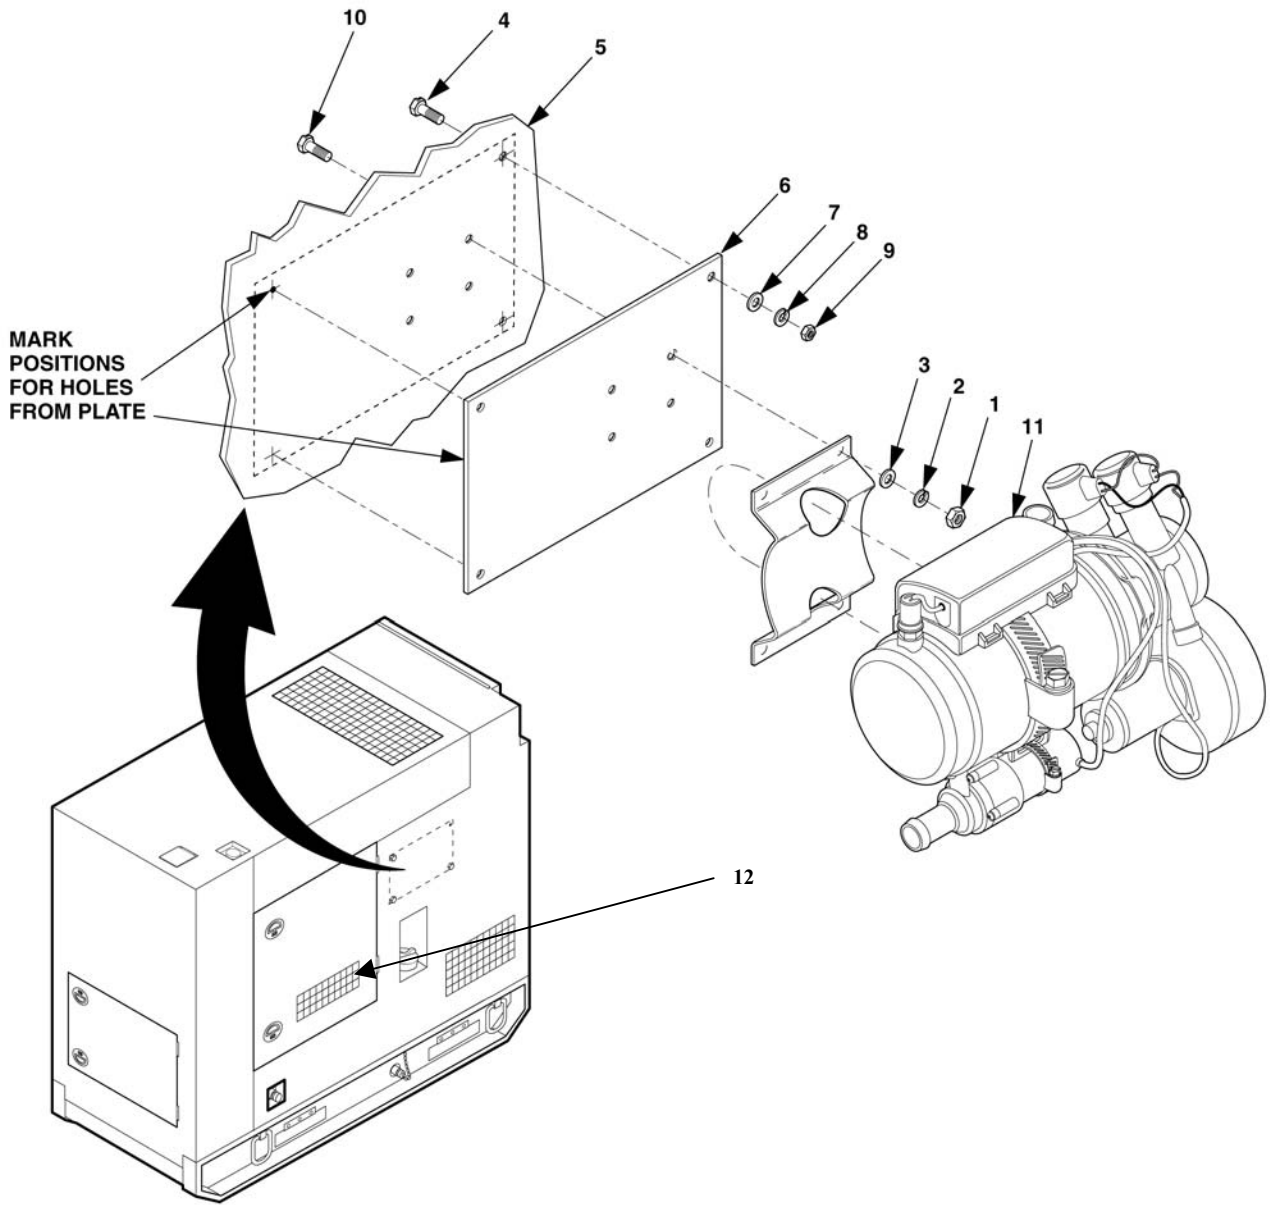

Figure 4-32. Heater Assembly
4. Open control panel access door (12), Figure 4-32.